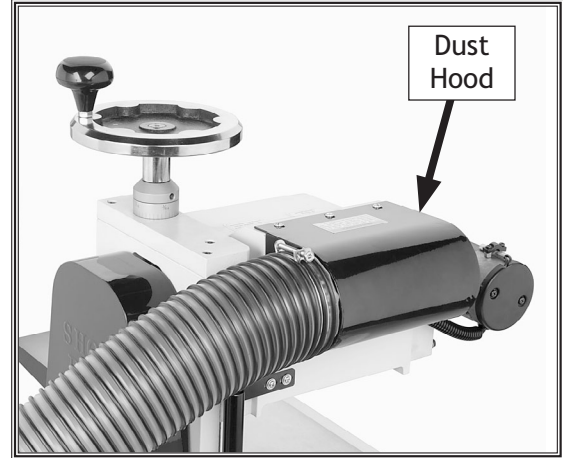

Figure 16. Installing the dust hood.
- 19. Install the dust hood (Figure 16) with three #10-24 x 1/2" flange screws.
- 20. Install a 4" flexible dust collector suction hose to the dust port, as shown in Figure 16.